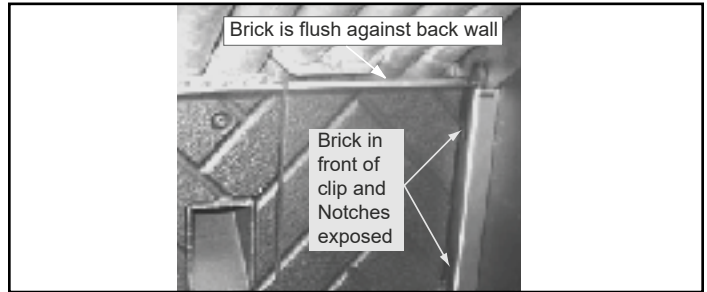
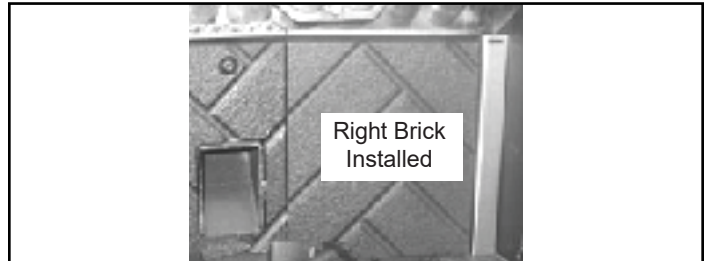

Figure 24.4
Figure 24.5
3. Reinstall bricks in reverse order ensuring that the bricks are flush against the back wall of the firebox (**Figure 24.4** and **Figure 24.5**).